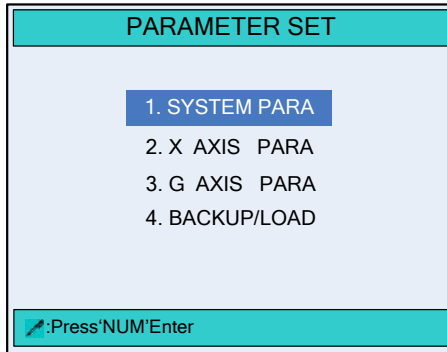

Figure 3-4 The PARAMETER SET page
**Step 3** Move the cursor to parameter **mm/inch** or **中文/English**, enter the password **14789**, and press  to enter the **PARAMETER SET** page, as shown in Figure 3-4.